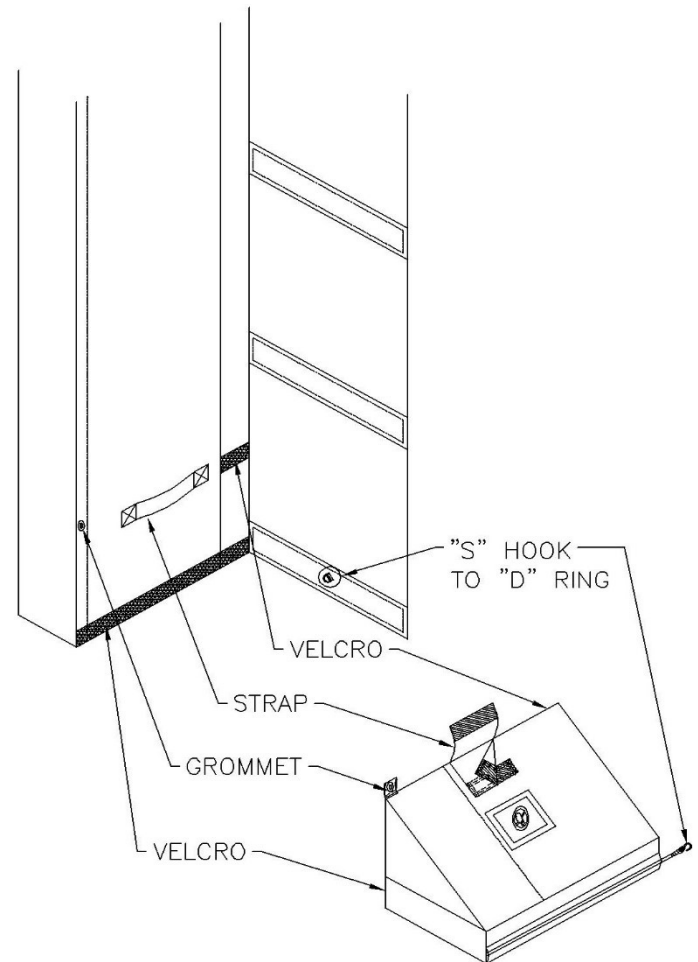

FIG. 14
- vi. Attach phantom draft pad to bottom inside of vertical pads. **FIRST**, attach the back face of the phantom draft pad to the inside face of the vertical pad. **SECOND**, pull strap on phantom draft pad through loop on inside face of vertical pad and Velcro back onto phantom draft pad top face. , attach the phantom pad bungee cables to the removable inward panels by hooking the "S" hook through the grommet on the back of the removable panel (Fig 14).